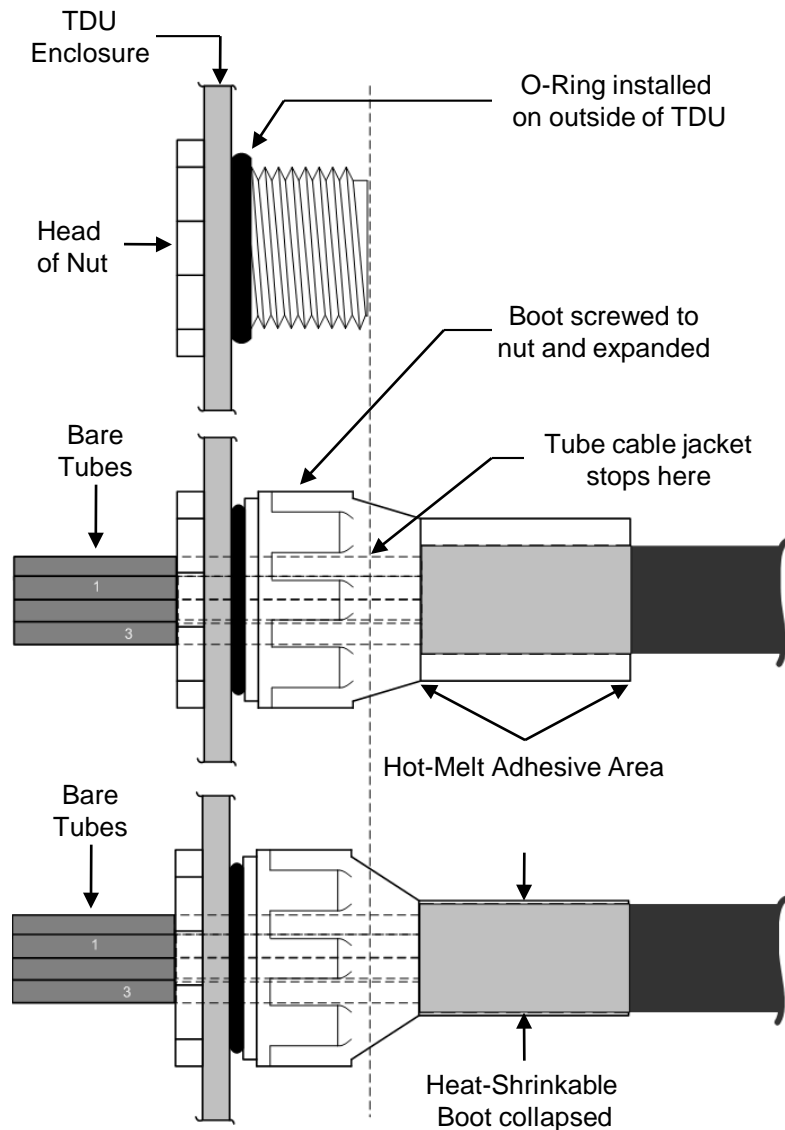

Figure 5
8.7 Insert tubes / tube cable into CES until larger diameter tube cable jacket contacts smaller boot / nut opening. *Do not try to force tube cable through these openings. Stop when contact is made. See Fig. 5.*